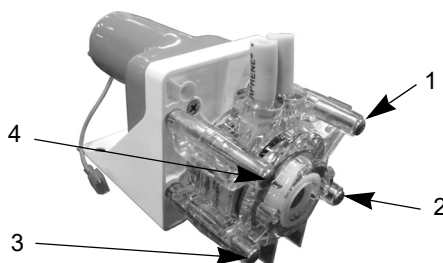

Figure 23. Pump Body Screws
2. Loosen and remove the four screws from the pump body (See Figure 23).
7. While holding the pump halves together with your hand, reinsert the four thumb screws (See Figure 23) and tighten using a criss-cross pattern as shown. The thumb screws should be tightened about 1/4 turn beyond snug.